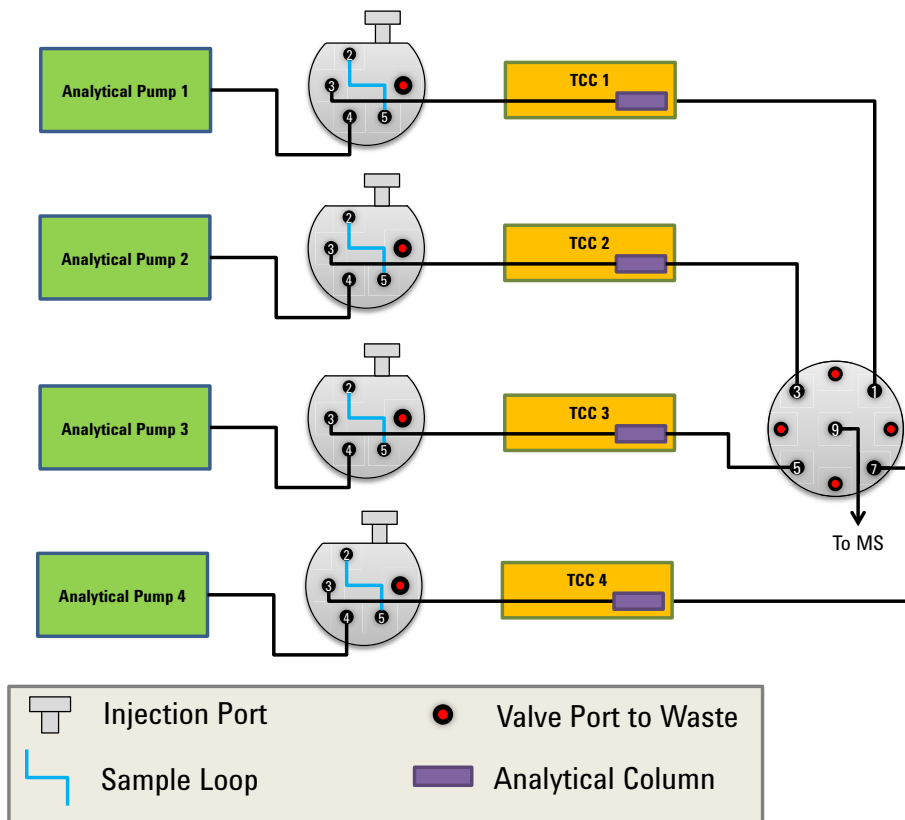

Figure 4 LC Flow Path diagram for systems *without* online sample cleanup
- c Make the LC connections as shown in Figure 4.